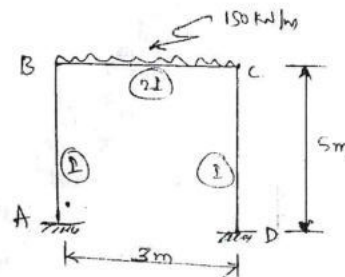

Fig. Q9
- 9 Analyse the Portal frame shown in Fig. Q9 by stiffness method. Draw bending moment diagram. (20 Marks)